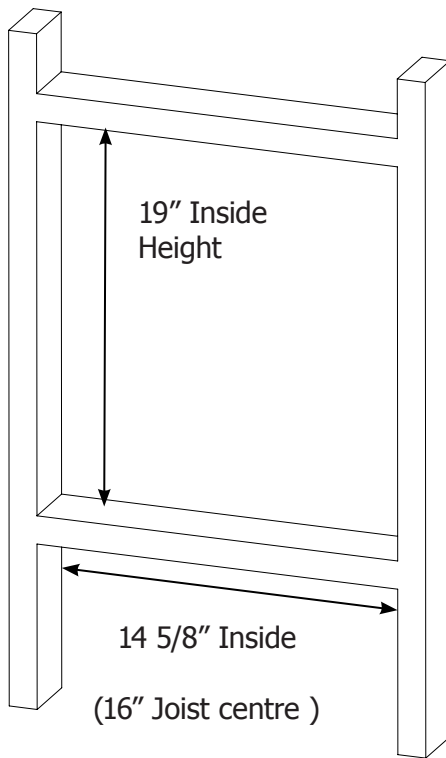

Figure 5A: Power Vent Framing Dimensions
2. Cut and frame an opening that is 19" (483mm) tall by 14 5/8" (371mm) wide for the exterior thimble as shown in Figure 5A.